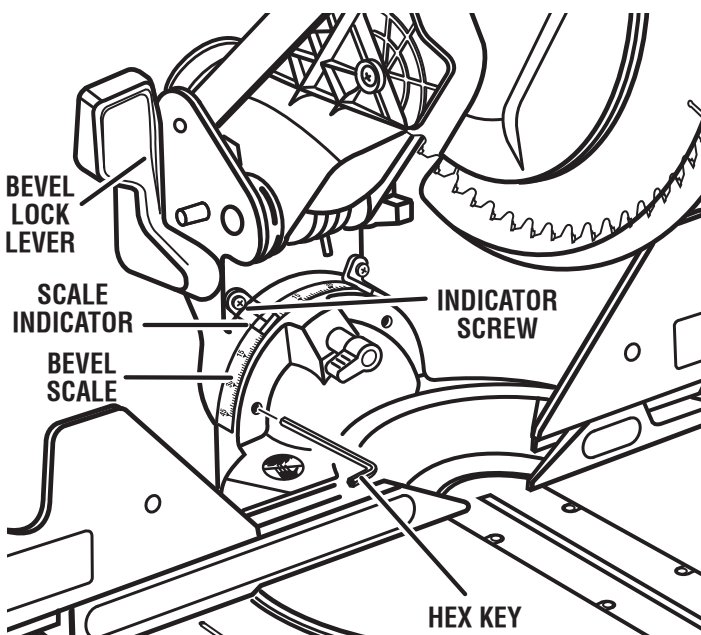

Fig. 24
See Figures 24 - 27.
- Using a hex key, loosen the two screws inside the pivot assembly. See Figure 24. Move the saw head as needed to bring the saw blade into alignment with the square. Retighten the screws.